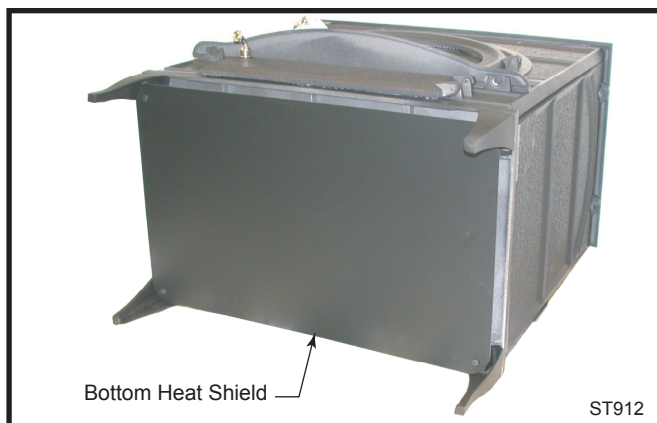

Fig. 20 Bottom heat shield in place on bottom of stove.
3. Slide the leg into position around the bolt and fasten it finger-tight. Repeat this process for all four (4) legs.
4. Fasten, finger-tight, the bottom heat shield to the brackets using the four (4) 1/4-20 x 1/2" bolts with nuts.
5. Adjust the bracket's position on each leg as needed until the shield fits. (Fig. 20)